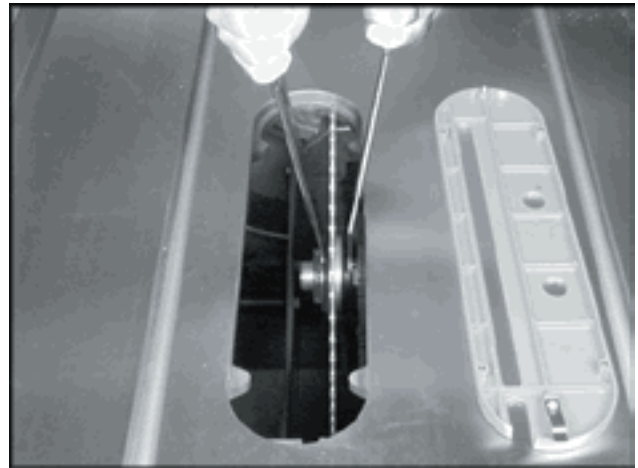

Figure 22
3. Use the two provided arbor wrenches to loosen the arbor nut, as shown in Figure 22. Place one wrench on the arbor nut and one on the flats located on the arbor. Remove the nut, flange and blade.